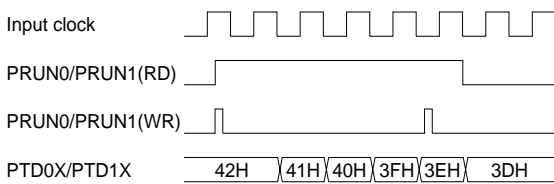

Fig. C.3 Timing chart of RUN/STOP control
- (1) The programmable timer is actually made to RUN/STOP in synchronization with the falling edge of the input clock after writing to the PRUN0(1) register. Consequently, when "0" is written to the PRUN0(1), the timer shifts to STOP status when the counter is decremented "1". The PRUN0(1) maintains "1" for reading until the timer actually shifts to STOP status. Figure C.3 shows the timing chart of the RUN/STOP control.